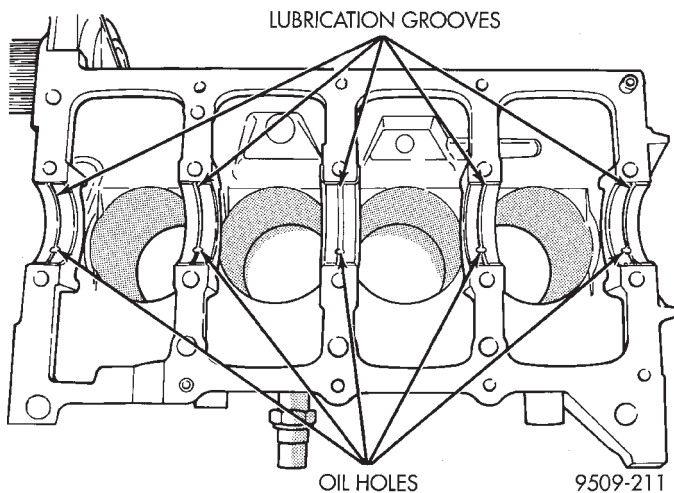

Fig. 12 Installing Main Bearing Upper Shell
(1) Install the main bearing shells with the lubrication groove in the cylinder block (Fig. 12).
(2) Make certain oil holes in block line up with oil holes in bearings. Bearing tabs must seat in the block tab slots.